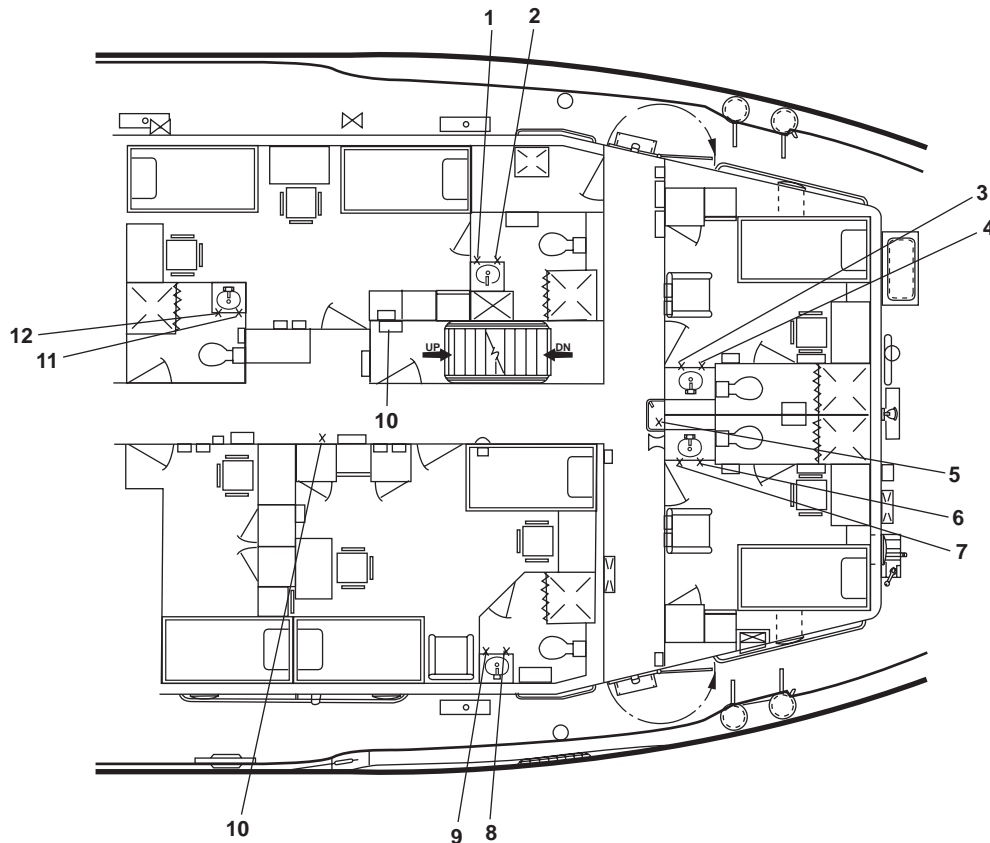

Figure 12. 01 Level Potable Water Valve Locations
- (1) PW-61 (figure 12, item 1), cold potable water to the sanitary space
- (2) PW-26, C.W. TO W.C. (figure 12, item 2)
- (1) PW-56 (figure 12, item 3), cold potable water to the sanitary space
- (2) PW-58 (figure 12, item 4), hot potable water to the sanitary space
- (1) PW-68 (figure 12, item 5), supply to drinking fountain
- (2) PW-62, C.W. TO W.C (figure 12, item 10)
- (1) PW-55 (figure 12, item 6), cold potable water to the sanitary space
- (2) PW-57 (figure 12, item 7), hot potable water to the sanitary space
- (1) PW-60 (figure 12, item 8), hot potable water to the sanitary space
- (2) PW-59 (figure 12, item 9), cold potable water to the sanitary space
- (1) PW-63 (figure 12, item 11), cold potable water to the sanitary space
- (2) PW-64 (figure 12, item 12), hot potable water to the sanitary space